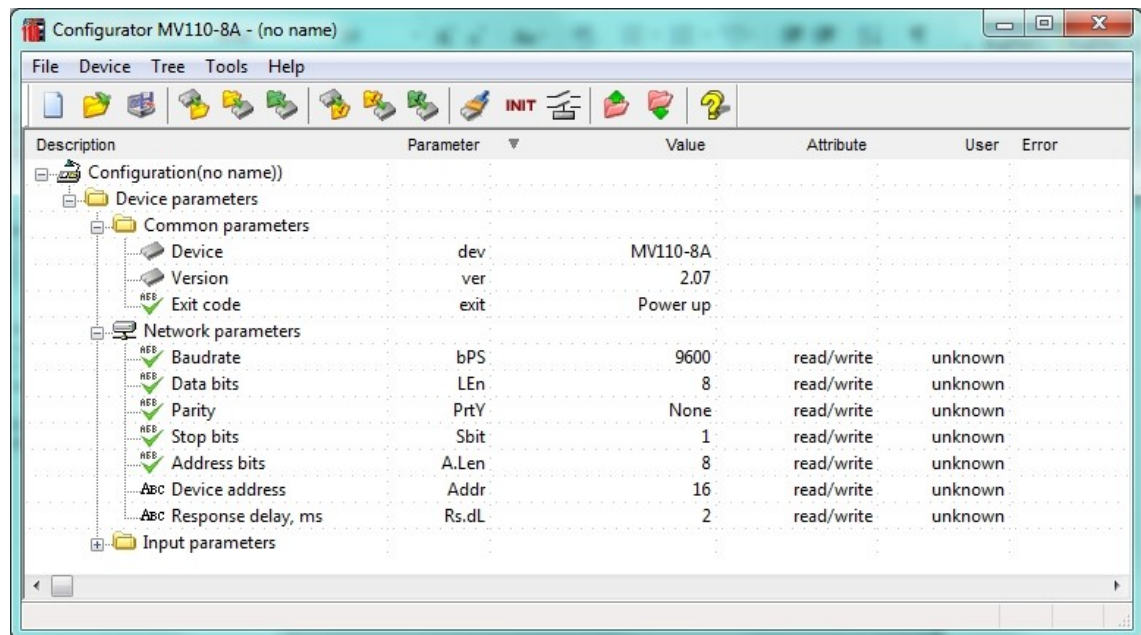

Fig. 6.2 Mx110 Configurator main window
8. The main window of the Configurator opens. Saved user parameters of the module can be read now (see Fig. 6.2).